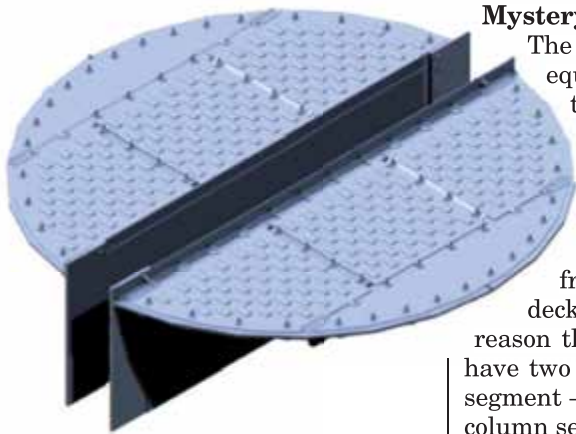

FIGURE 4. A modern design of a two-pass valve tray includes fast opening manways on both sides
3. If the trays were of modern design, with fast opening manways and locks (Figure 4), the maintenance crew would not have compromised the inspection and the cleaning procedure.